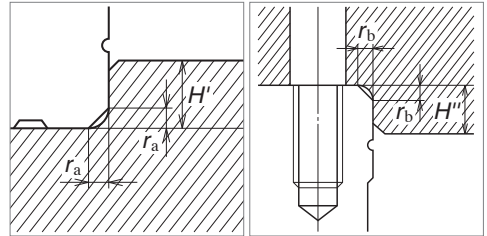

Fig. 9.10 Shoulder for the rail datum face Fig. 9.11 Shoulder for the slide datum face
- Fig. 9.10 and 9.11, show shoulder height of the mounting face of the machine base and the size of corner  $r$ . These figures are relevant when the linear guide is pressed to the shoulder of the machine base or table (the raised section from where the mounting face begins), and horizontally secured to it. Recommended sizes are shown in "Shoulder height and corner radius  $r$ " of each series introduction.